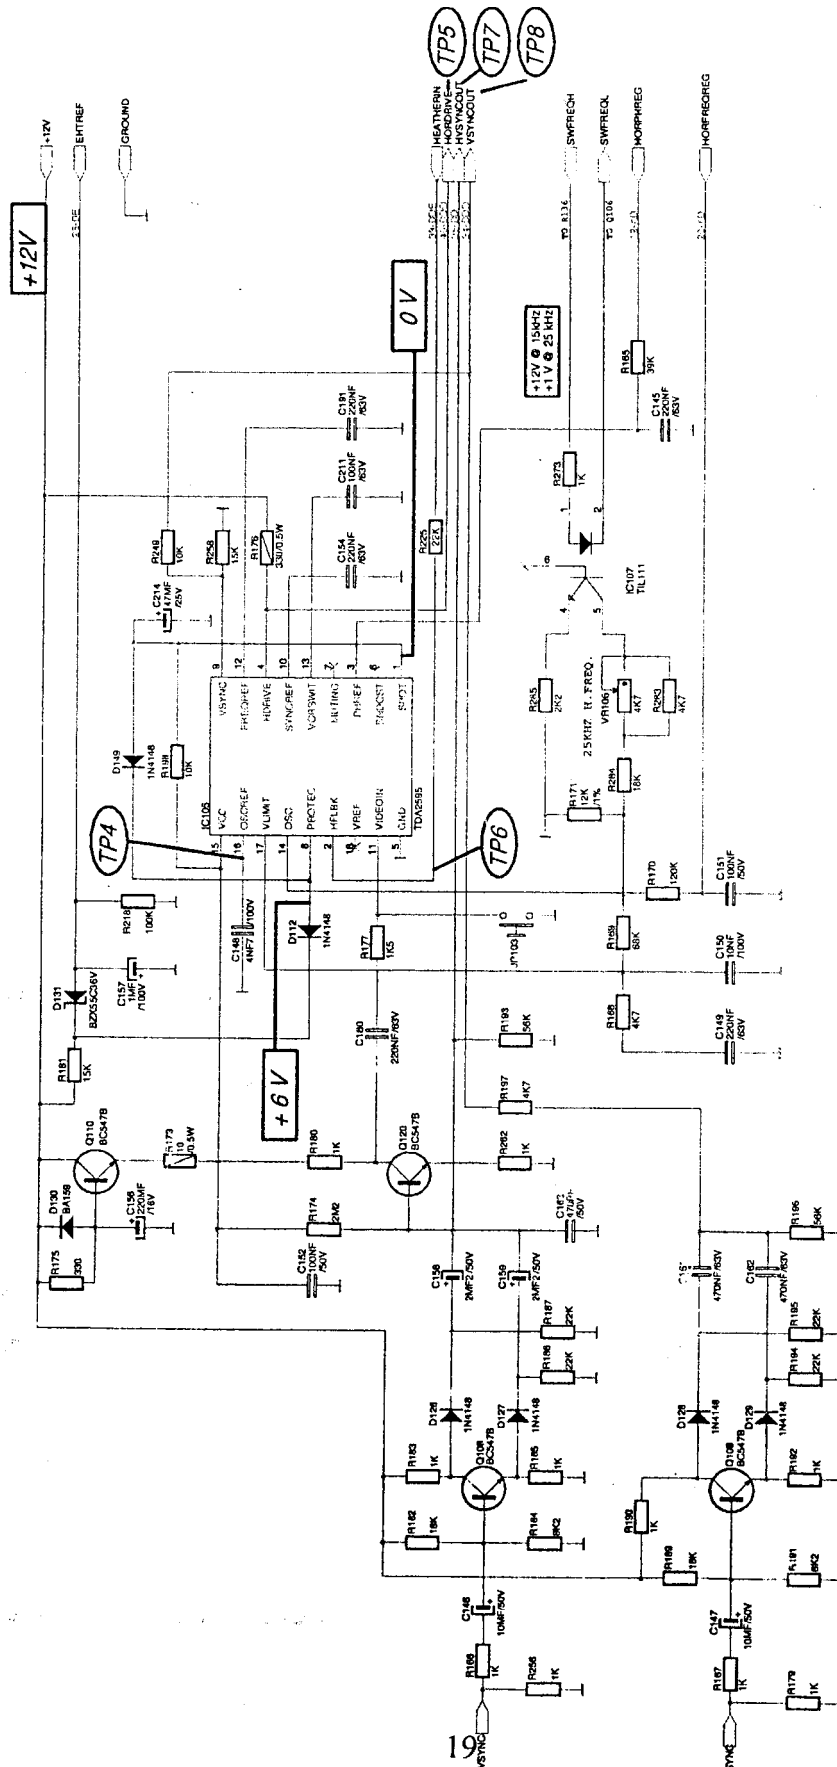

Fig. 11 - Monitor Doppia Frequenza (15-25 kHz)
3. Integrated Circuit IC105 = TDA2595 (Fig.11).
1. Integrated Circuit IC105 = TDA2595. (Fig.11)